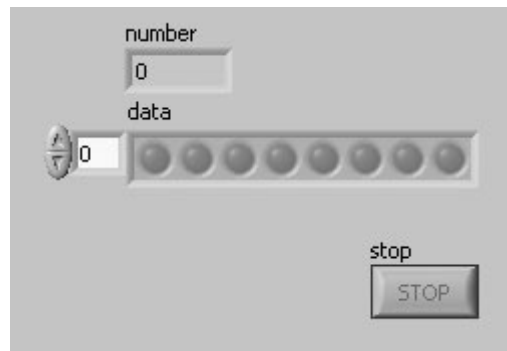

Figure 11.22
7. Build the front panel and block diagram shown in Figures 11.22 and 11.23.